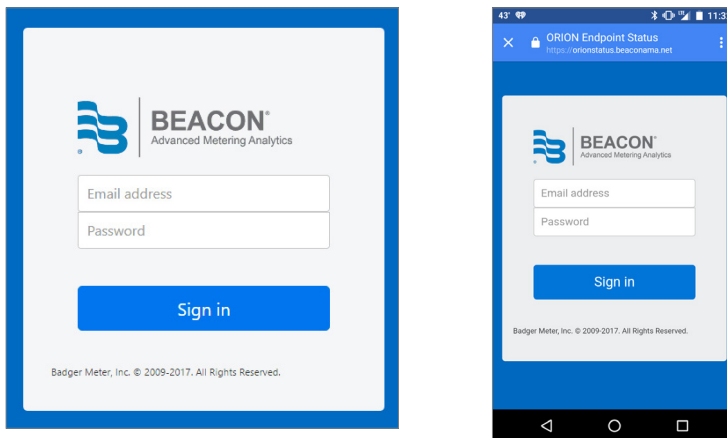

Figure 65: Tool sign in screen - computer and mobile
2. Sign in with your BEACON email address and password (Figure 65).